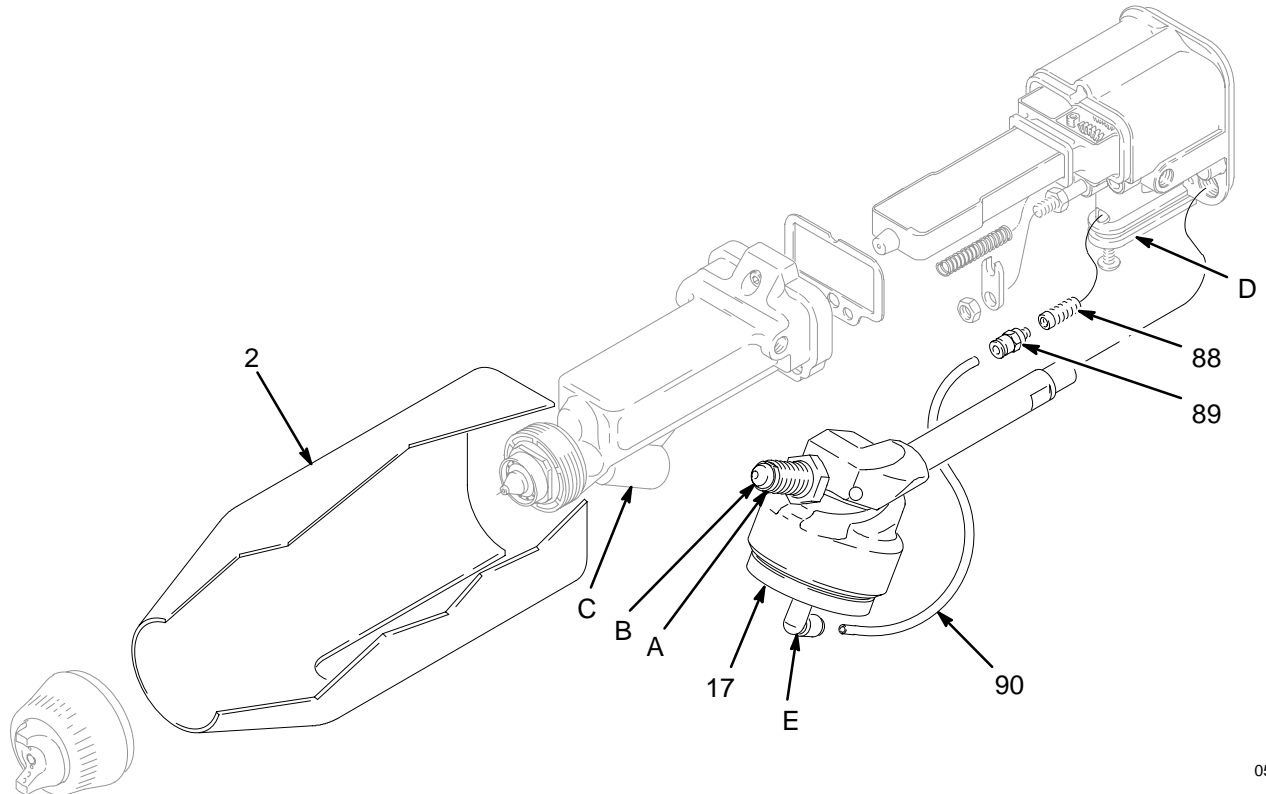

Fig. 43
**NOTE:** The fluid regulator is item 17 in the parts list for the part no. 238091 spray gun. It is not included with part no. 237603 and 236824 spray guns. A Conversion Kit is available to add the fluid regulator to those spray guns. See page 47.
3. Remove the regulator assembly from the gun barrel by loosening the outlet fitting (B) from the gun barrel (C) and disconnecting the air tubing (90) from the elbow fitting (E). Refer to Fig. 43.
7. Screw the regulator outlet fitting (B) into the gun barrel (C), and tighten the fitting securely. Connect the air tubing (90) to the elbow fitting (E). Refer to Fig. 43.
3. Remove the fluid fitting (17) and o-rings (18, 22) from the gun barrel. Refer to page 50.
4. Make sure the o-ring (A) is in place on the regulator outlet fitting (B). See Fig. 43.
5. Screw the regulator outlet fitting (B) into the gun barrel (C), and tighten the fitting securely.
6. Apply high strength (*green*) Loctite® or equivalent. to the adapter (88) threads, and install the adapter into the gun body (D).
7. Install the tube fitting (89) into the adapter (88).
9. Install the air tubing (90) between the regulator elbow fitting (E) and the tube fitting (89). Cut the tubing to the length needed.